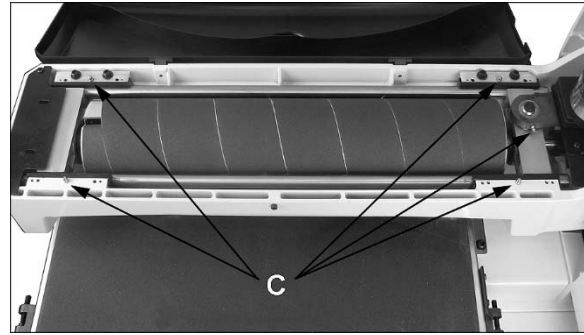

Figure 10-2: grease fittings
- Insert NLGI #2 grease into the five fittings (C, Figure 10-2) every 150 work hours. *Do not over-grease.*